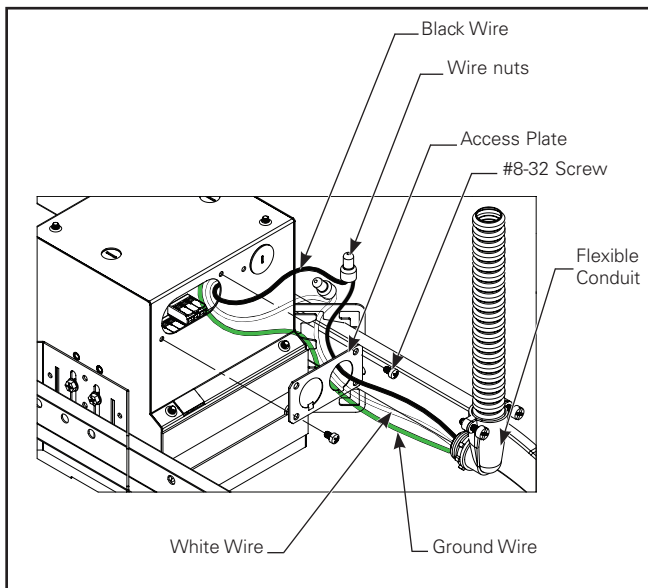

Figure 1.6.
- ii. Connect Black to Black and White to White wires by using wire nuts provided. (Figure 1.6)